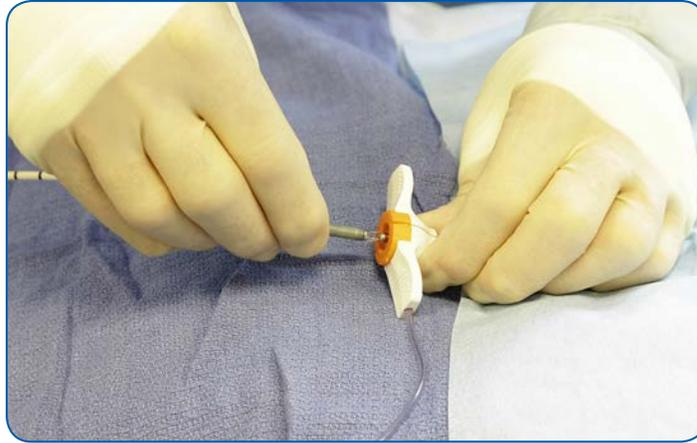

Figure 5.24 Inserting the Impella® Catheter
11. Advance the catheter through the hemostatic valve into the femoral artery (see Figure 5.24) and along the placement guidewire and across the aortic valve using a fixed-wire technique. Follow the catheter under fluoroscopy as it is advanced across the aortic valve, positioning the inlet area of the catheter 3.5 cm below the aortic valve annulus and in the middle of the ventricular chamber, free from the mitral valve chordae. Be careful not to coil the guidewire in the left ventricle.